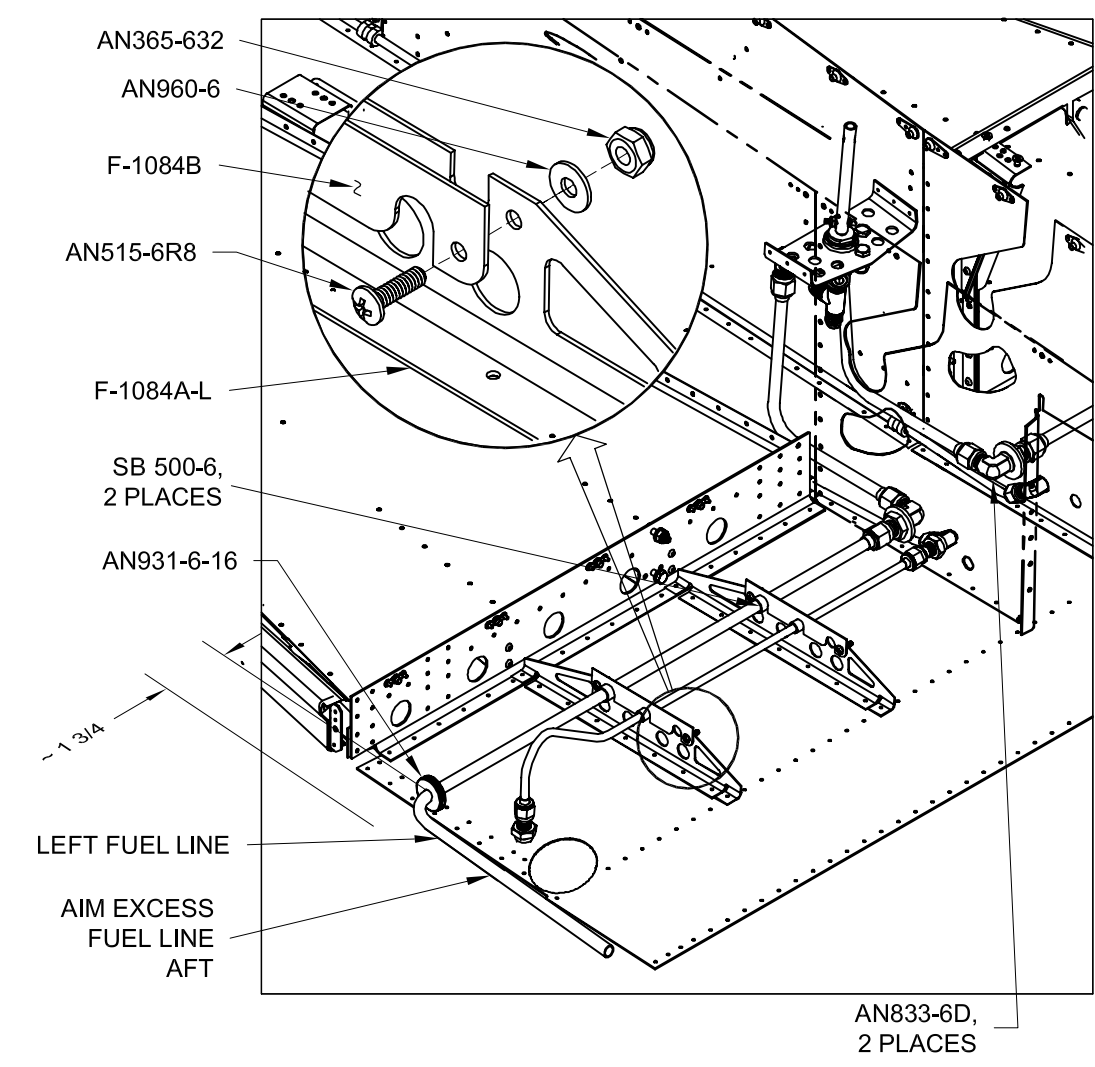

FIGURE 5: FUEL LINE ROUTING (CENTER SECTION SIDE PLATE AND FWD SIDE SKIN NOT SHOWN FOR CLARITY)
Step 7: From the other end of the fuel line slide on two snap bushings and a grommet, as shown in Figure 5. Feed the fuel line out the hole in the F-1004K-L Center Section Side Plate and F-1069 Fwd Side Skin. Attach the left fuel line to the AN833-6D 90° Elbow on the F-1048-L Fwd Fuselage Rib. Repeat this step for the right fuel line. The right fuel line installation is a mirror of the left.
Step 8: Insert the grommet into the F-1069 Fwd Side Skin. Insert the snap bushings into the F-1084A-L and -R Systems Brackets. Install the F-1084B Systems Bracket Clips to the systems brackets. See the detail view in Figure 5.
Step 9: Bend each Fuel Line 90° aft, approximately 1 3/4 inches outboard from the side of the fuselage. See Figure 5.